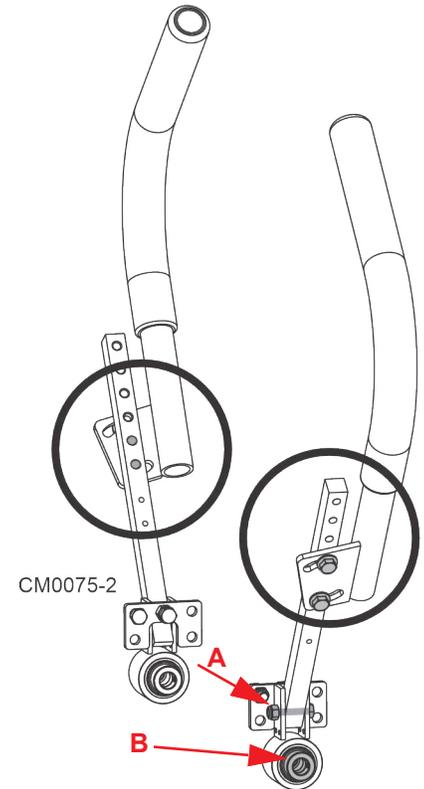

FIG. 3-6
- c. If the arms are too stiff moving in from neutral, loosen the bolt at the base of the arm. See Figure 3-6, A.
- d. If the arms are too stiff moving forward and back, loosen the set screw in the collar. See Figure 3-6, B.